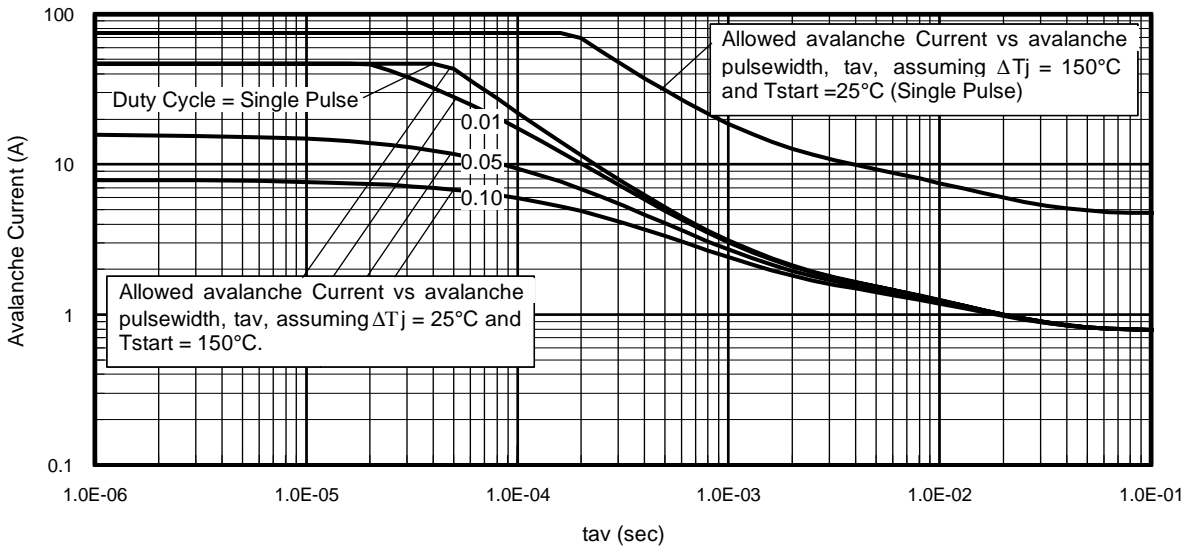

Fig 14. Typical Avalanche Current vs. Pulsewidth
**Notes on Repetitive Avalanche Curves, Figures 14, 15:**
7.  $\Delta T$  = Allowable rise in junction temperature, not to exceed  $T_{jmax}$  (assumed as  $25^{\circ}C$  in Figure 14, 15).